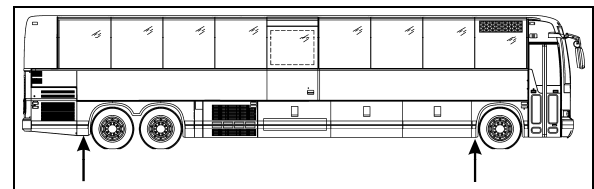

FIGURE 4: JACKING POINTS ON FRAME (TYPICAL) 18618
3. Clean the area around the fill plug. Remove the fill plug from the differential axle housing bowl (Fig. 4).
1. Raise vehicle by its jacking points on the body (fig. 4 or see Section 18, "*Body*" under heading "*Vehicle Jacking Points*"). Place jack stands under frame. Remove drive axle wheels (if required, refer to Section 13, "*Wheels, Hubs And Tires*").